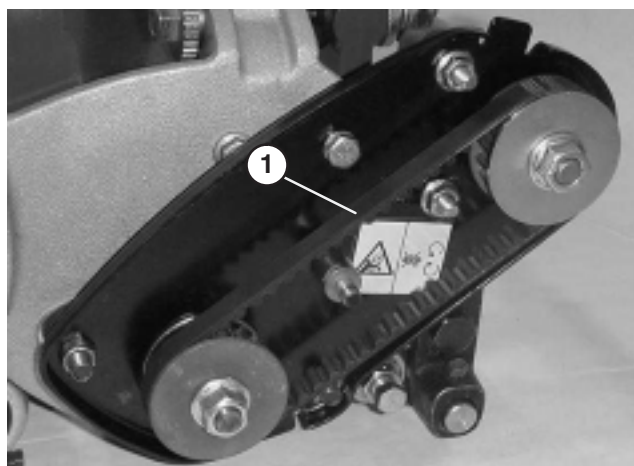

Figure 37
2. Check tension by depressing belt (Fig. 37) at mid span of pulleys with 4 ± 1 lb. of force. Belt should deflect $1/4$ in. If deflection is incorrect, proceed to next step.